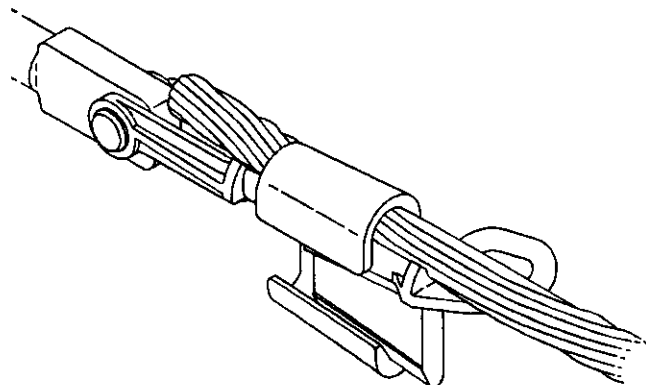

Figure 4
5. Insert the wedge with the large groove positioned against the deadend body. (see markings on the wedge). See Figure 4.